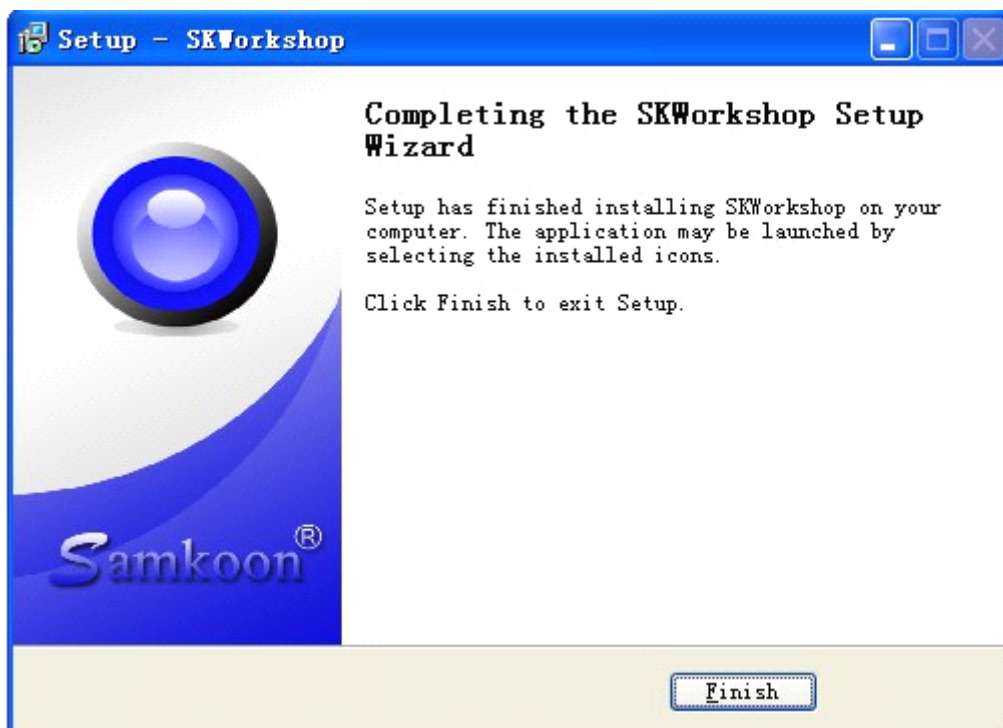

Figure 2-11: Installation completion dialog
- After completion of installation, click OK to complete the installation process, as shown in Figure 2-11.